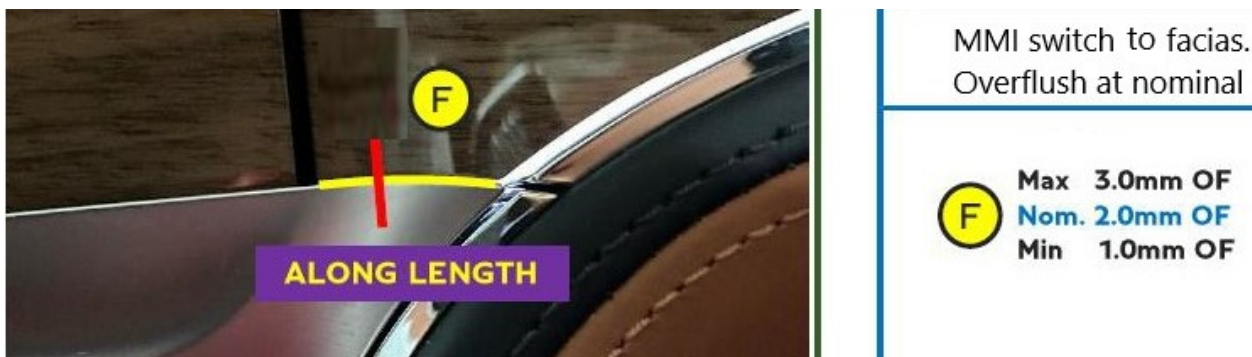

Figure 3
5) Referring to Figure 3 - Measure the profile of the switch pack to confirm the correct tolerance has been achieved